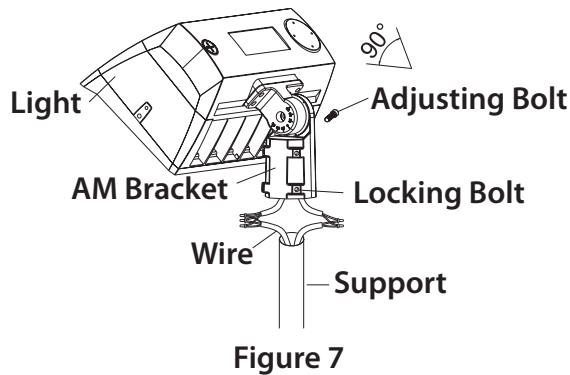

Figure 7
1. ADJUSTABLE FITTER MOUNTING (AM)
Step 1: Connect the wire correctly and put the wire into pole. Then fasten the locking bolts between slip fitter and the pole. (Figure 7)
Notice: Adjustable angle is 0~+/-90° (Figure 7)